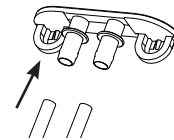

Figure 10
- Remove the plugs and allow the water to completely drain. See figure 10.